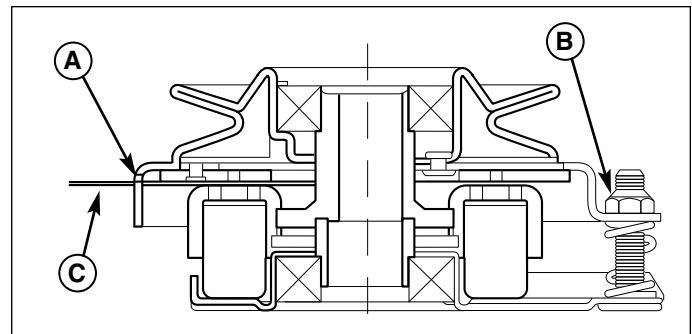

Figure 45. Adjust PTO Clutch
3. Insert a .012"-.015" (2.5-4mm) feeler gauge (C) through each window, positioning the gauge between the rotor face and the armature face as shown in Figure 45.